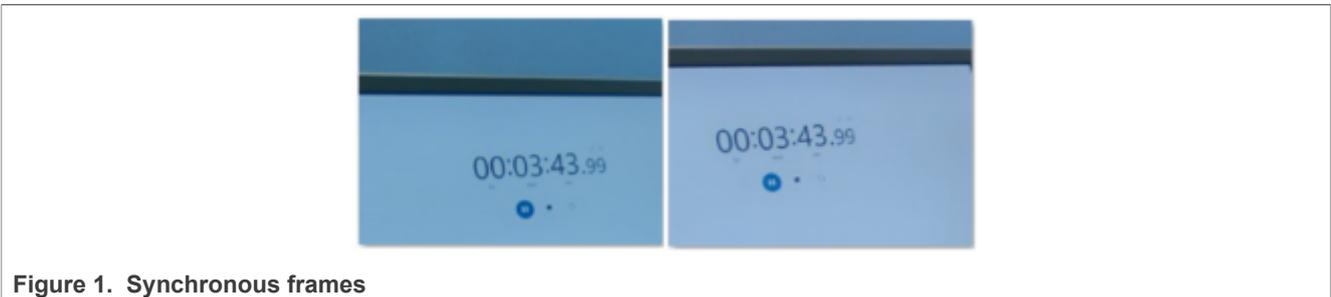

Figure 1. Synchronous frames
- e. Once the cameras are triggered, two synchronous frames are saved. The format shown in Figure 1 is h:m:s.ms.